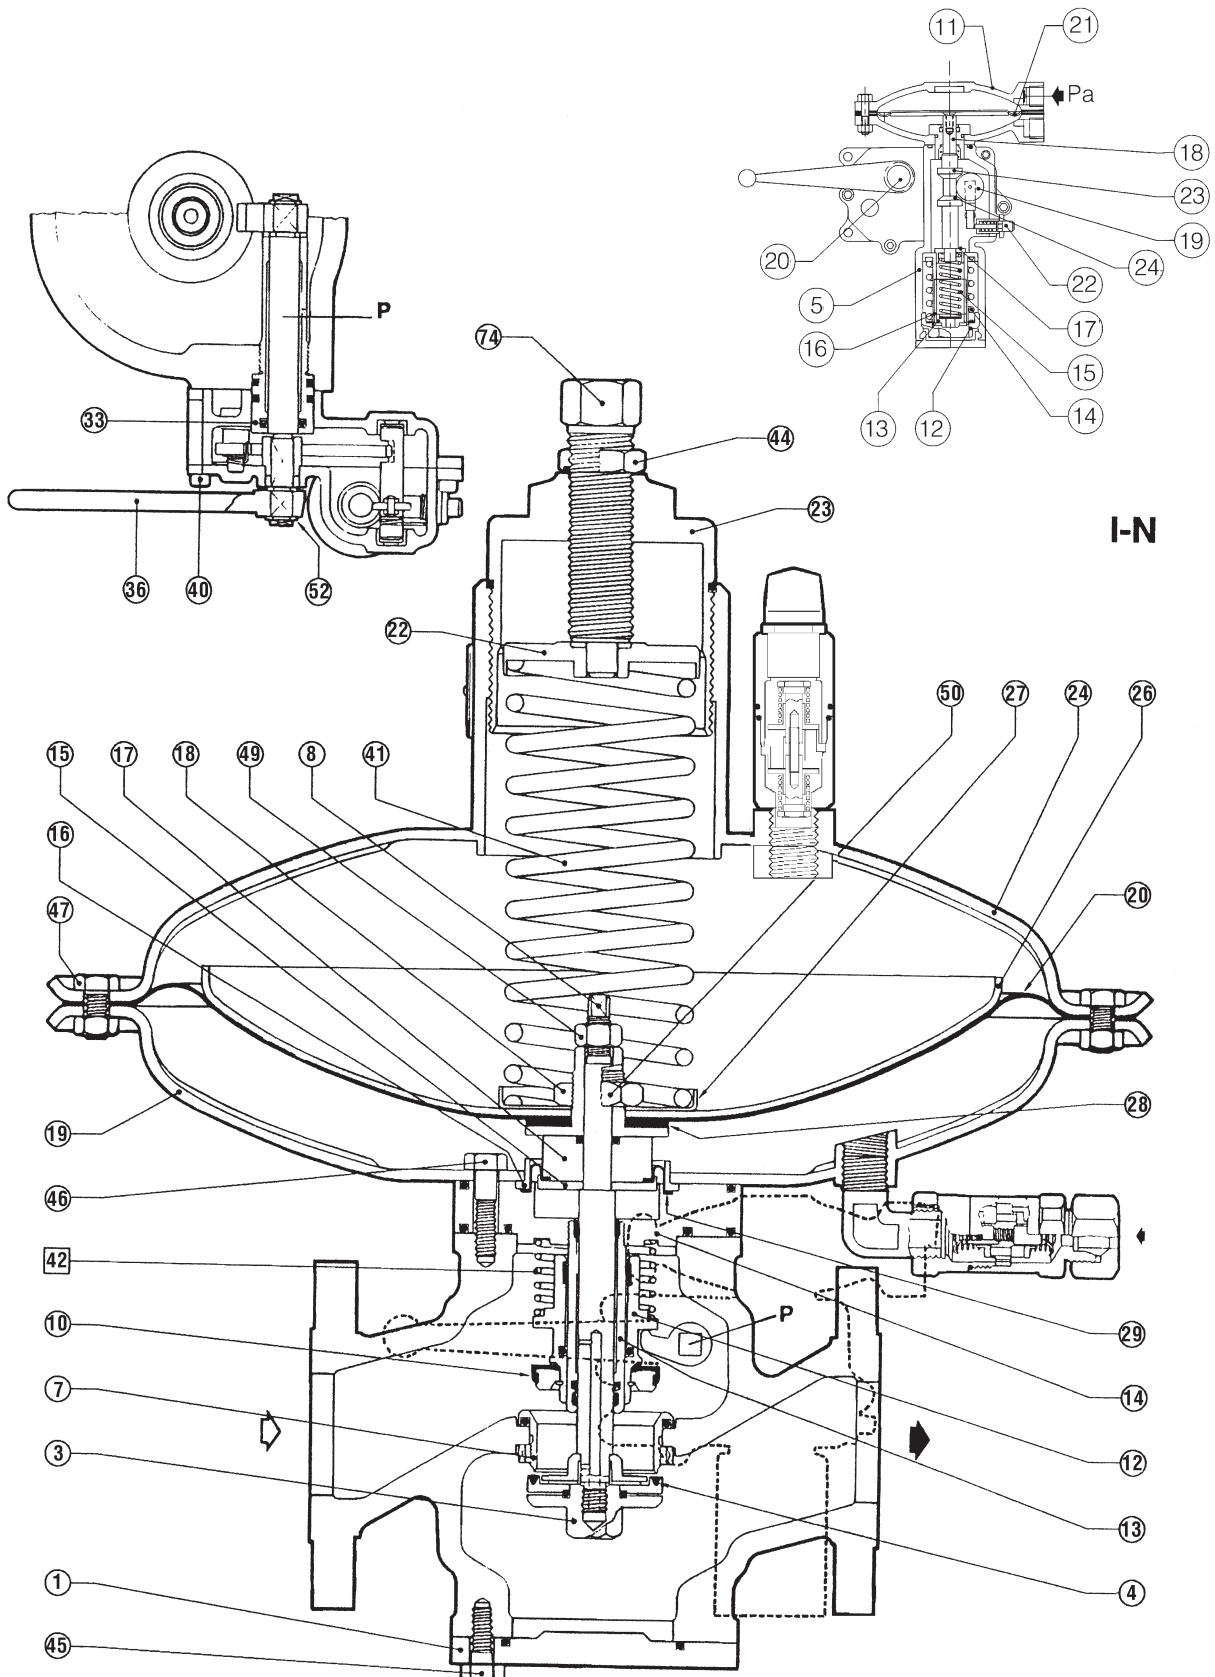

Fig. 18
6.2 TAB. 10 REGULATOR SLAM-SHUT (FIG. 18)
(The positions refer to fig. 18)